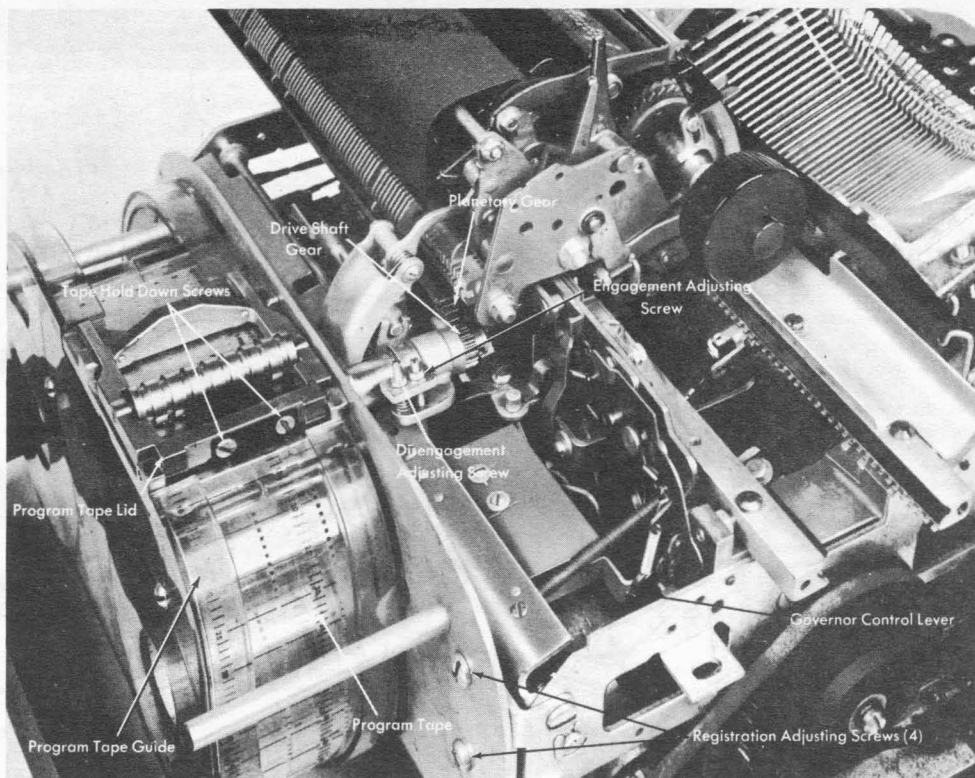

Figure 70. Program Unit Adjustment
1. Remove the program tape guide. Loosen the four registration adjusting screws (Figure 70), move the program unit plate to its lowest position and tighten the screws. Check for at least $\frac{1}{32}$ " clearance between the drive-shaft gear and the teeth of the program rack.
2. Adjust the engagement adjusting screw to allow the planetary gear .002" to .003" backlash with the lowest point of the program rack (Figure 70).
3. Adjust the disengagement adjusting screw to permit about .030" downward travel of the planetary gear, making certain it cannot disengage from the program rack (Figure 70).
4. With the tape lid latched, adjust the tape hold-down for .009" to .011" clearance with the tape table. Before tightening the two locking screws, check that the feed wheels are about centered in the slots of the tape hold-down (Figure 70).